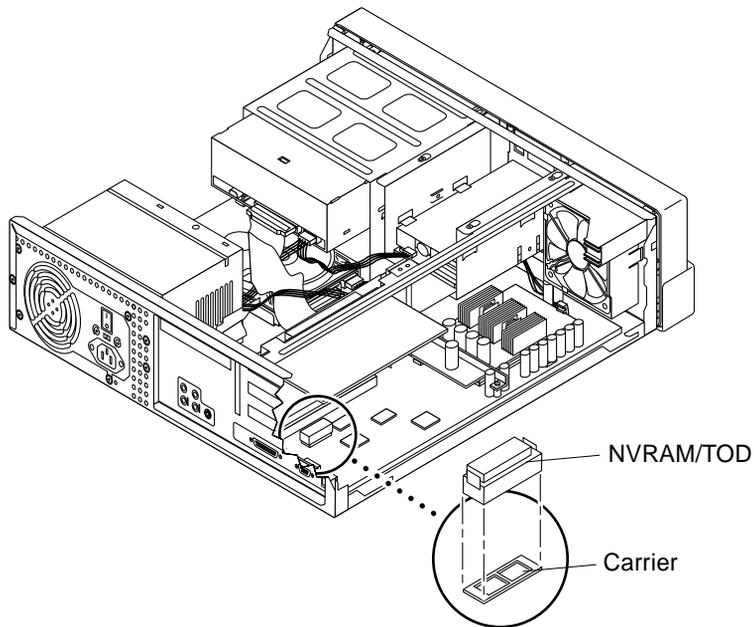
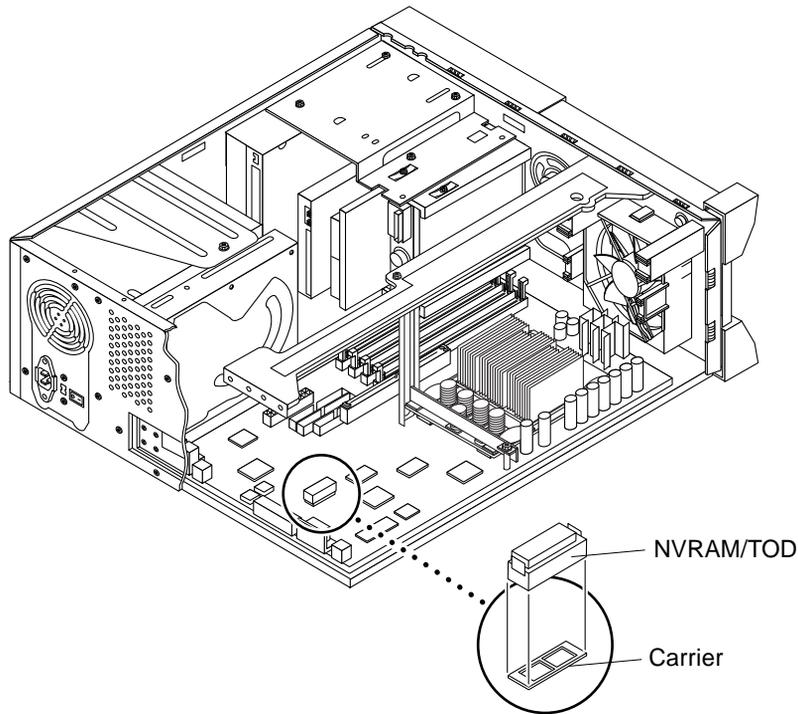

FIGURE 10-3 Removing and Replacing the NVRAM/TOD (Ultra 5)
FIGURE 10-4 Removing and Replacing the NVRAM/TOD (Ultra 10)
4. Remove the NVRAM/TOD as follows (FIGURE 10-3 or FIGURE 10-4):
1. Replace the NVRAM/TOD as follows (FIGURE 10-3 or FIGURE 10-4):